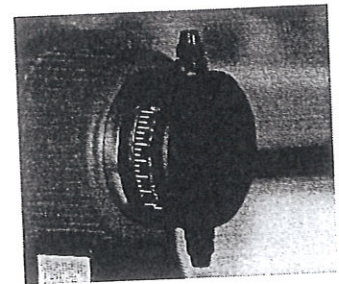

Fig. 2
- On request mechanical stroke length adjustment system, this control provides accurate capacity adjustment. (Fig. 2). Pump head made of PVC.